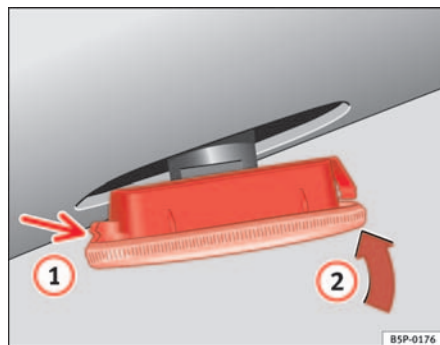

Fig. 150 Side indicators
- First fit the indicator in the opening in the chassis, fastening the tabs **1** ⇒ fig. 150, and then fit in the lamp as shown by the arrow **2** ⇒ fig. 150 ■